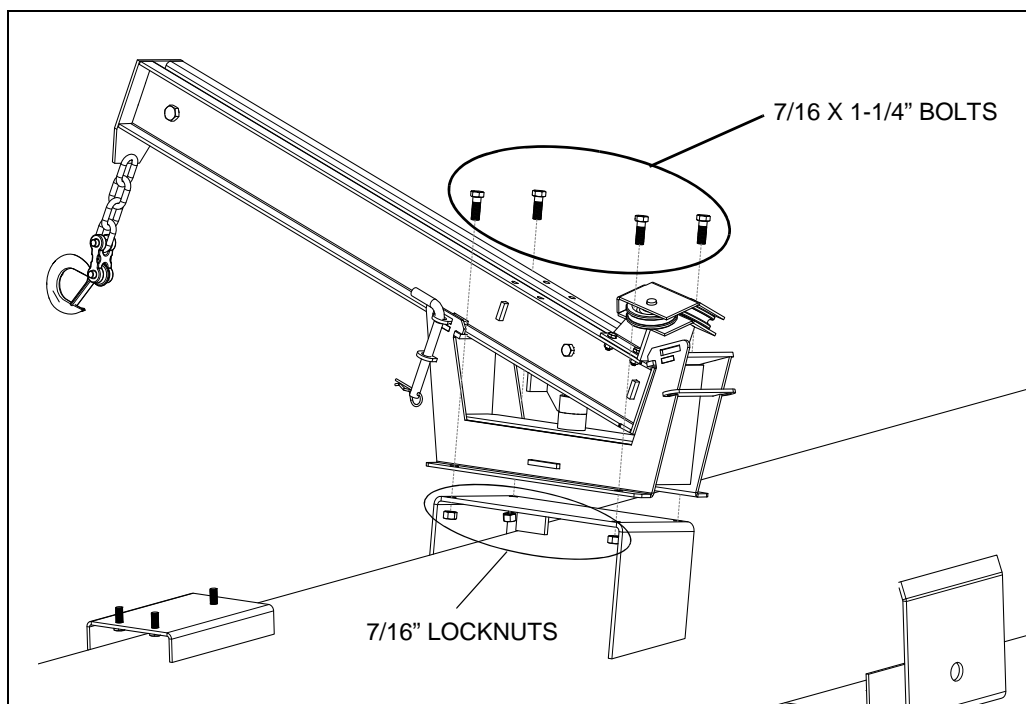

Figure 3.37 Installing the Lift Arm
3. Fasten hopper lift arm assembly to the mount bracket with four 7/16" x 1-1/4" bolts and 7/16" locknuts (Figure 3.37).